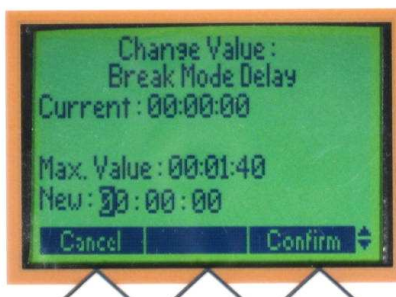

FIG. 72: Change Value Screen
2. Press the UP/DOWN Arrow Keys to change the delay time. See Fig. 72.
3. Press the CONFIRM Key to lock in the new settings. See Fig. 72.